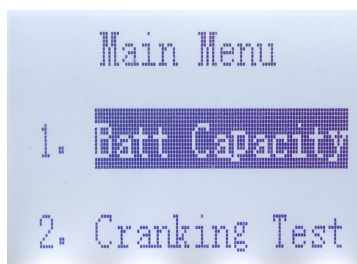

Figure 12
(5) After the measurement, press ESC to exit the main menu. Figure 12: